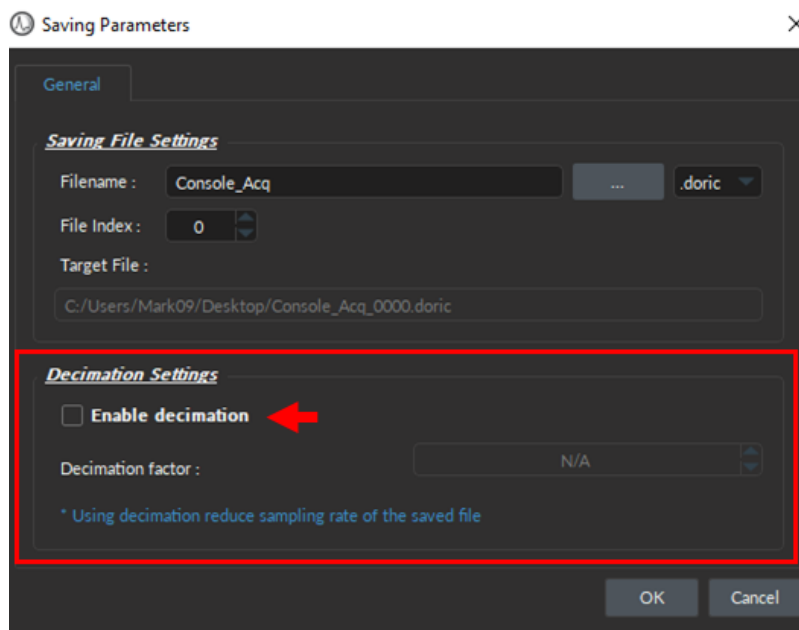

Figure 3.42: Enable/Disable the decimation factor that reduces Sampling Rate of the saved files
- **Note 1:** The saved file **effective sampling rate** is set to 5x the lowpass filter frequency, using a decimation factor (which can be disabled in Saving Options, see Fig. 3.42).